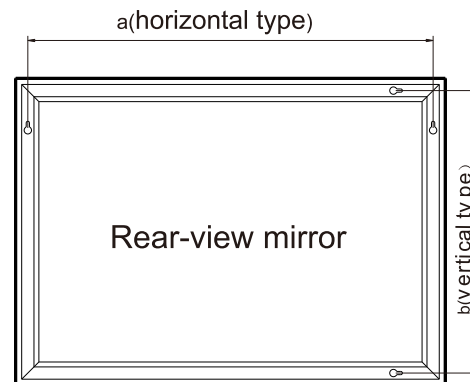

Fig. 2
- 1、 Make certain the wall is solid, and use the flexible rule to measure the centre distance between two hardy holes on the mirror frame ("a" and "b" in Fig. 2).
- 2、 Use the flexible rule to measure the centre distance between two hardy holes on the wall ("a" and "b" in Fig. 2), and mark them out with a pencil.